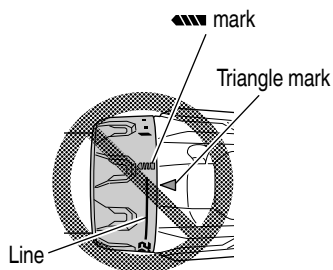

Fig. 12
- Do not use with the clutch dial set at the line between the number "22" and the drill mark "Wavy mark". Doing so may cause damage (See Fig. 12).